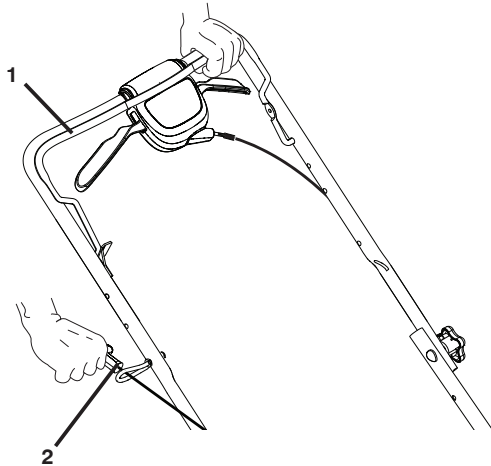

Figure 17
1. To start engine, hold operator presence control bar down to the handle and pull starter handle quickly. Do not allow starter rope to snap back (Figure 17).